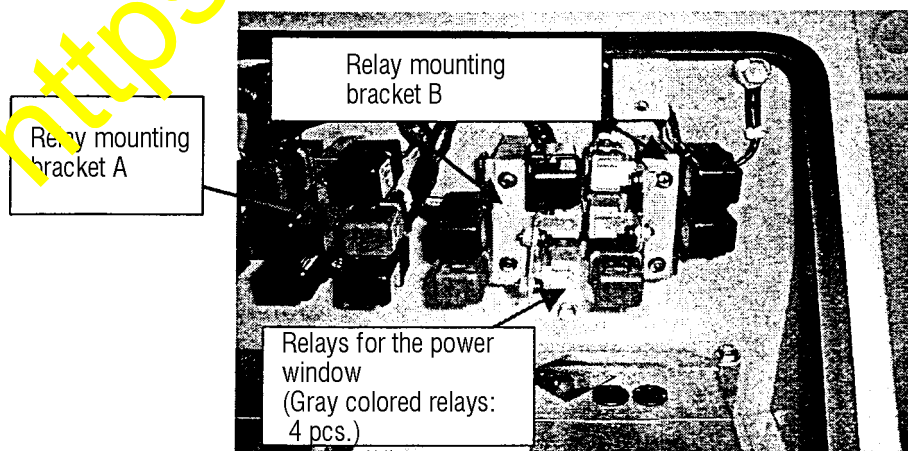

Fig. 11
- 3) Remove the power window relay mounting bracket B and remove the relays. (Refer to Fig. 11.)